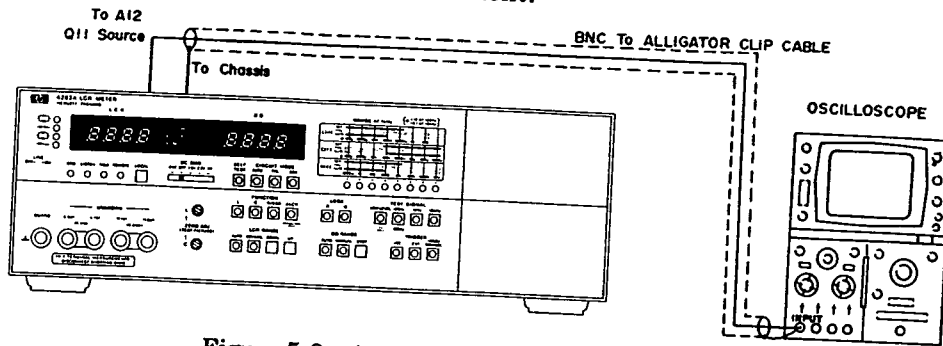

Figure 5-3. A12 Board Offset Adjustment.
a. Connect BNC to dual alligator clip cable between oscilloscope and transistor A12Q11* source on the A12 Range Resistor Board Assembly (See Figure 5-3).